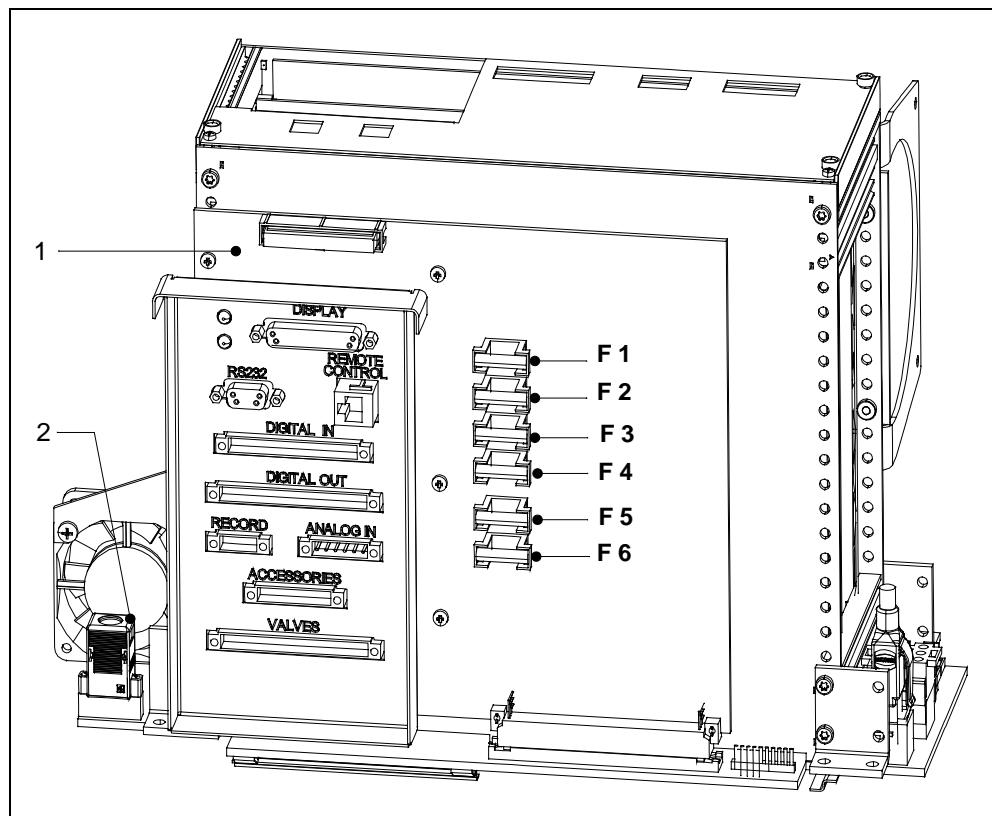

Fig. 7-6 Fuses on interface board (SSK)
- After the cover has been removed, the fuses on the interface board are accessible. Refer to Fig. 7-6.